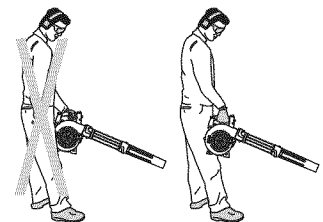

Fig. 11
- The unit is in the right hand and on the right side of the body. Do not block the air intake which will affect the unit's performance (Fig. 11).